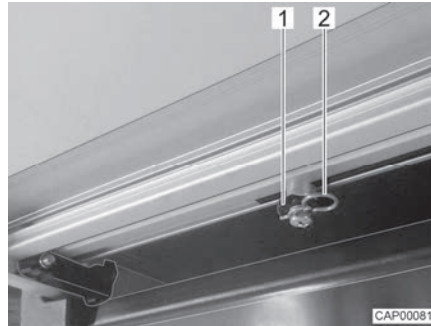

Fig. 2 Drive rod (entrance step)
- On the bottom of the entrance step, pull off both locking clips (Fig. 2,2) on the drive rods (Fig. 2,1).